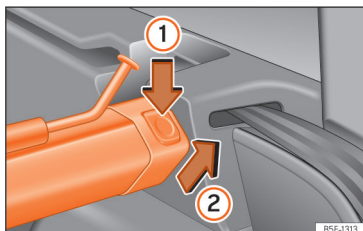

Fig. 184 In the boot: removing the partition net.
- Press the left or right release catch >>> Fig. 184 in the direction of the arrow ①.
- Remove the casing from the support in the direction of the arrow >>> Fig. 184 ②.
- Press the casing into the left and right supports in the opposite direction to the arrow >>> Fig. 184 ② until it engages. The red markings on the release buttons should no longer be visible.